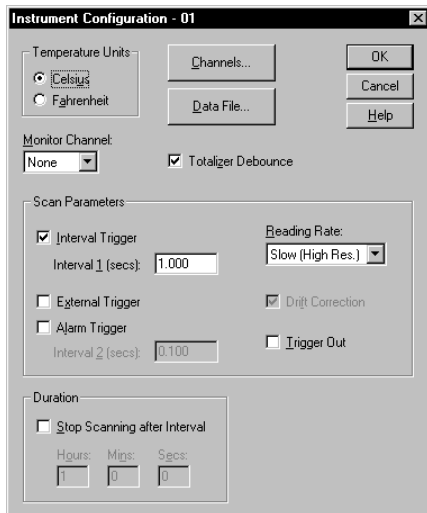

Figure 7.
2. Click the Channels button on the Instrument Configuration dialog box as shown in Figure 7.
8. Click OK to accept your configurations and back up to the Instrument Configuration screen. (Figure 7)